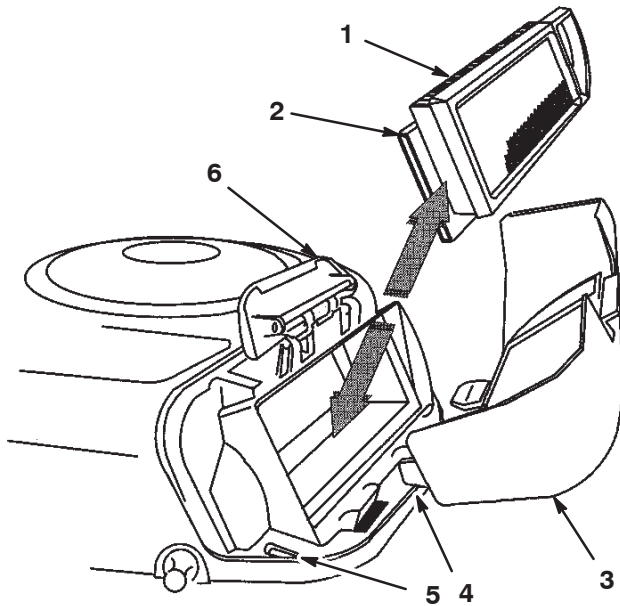

Figure 22
- Carefully slide the paper element and foam element from the blower housing (Fig. 22).
- Align the tabs on the air cleaner cover with the slots of the blower housing (Fig. 22). Hook the handle onto the cover and press down on the handle to lock the cover in place.